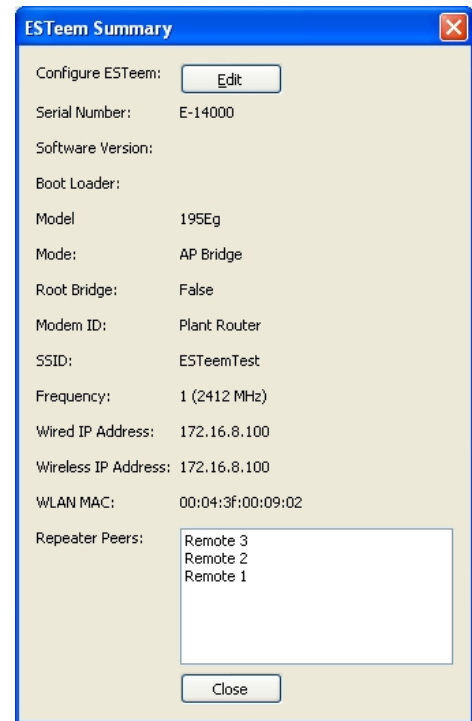

Figure 20: ESTeem Summary Page
- By default, the ENC Utility sets all ESTeem modems in AP Bridge mode. To change the Plant Router ESTeem to AP Router mode, double-click on the icon to bring up the ESTeem Summary window and press the Edit button (Figure 20).
3. By default, the ENC Utility sets all station mode ESTeem modems to EtherStation mode. The only adjustment necessary to the EtherStation modem in our example is to enter the connected Ethernet device’s MAC address. The ESTeem 195C/M will “clone” the Ethernet MAC address of the connected Ethernet device. To configure the EtherStation modem, double-click on the icon to bring up the ESTeem Summary window and press the Edit button (Figure 20).
6. To configure the two other modems, double-click on their icons to bring up the ESTeem Summary window and press the Edit button (Figure 20).